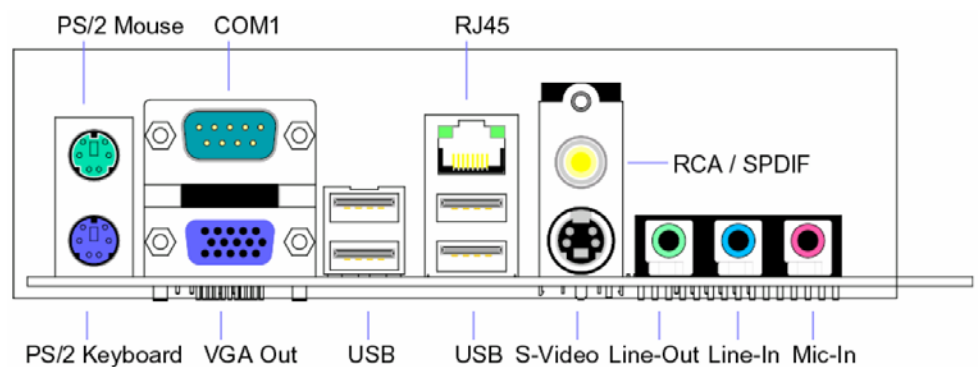

Figure 4 M6000 Controller, the CPU board connectors.
- 1 The CPU board. It contains the microprocessor and all the communication interfaces which are described in Figure 4.
To enter BIOS setup on M6000 it is necessary to open the M6000 cabinet by loosening the two screws under the cabinet, and to connect a PC keyboard with the PS/2 keyboard interface on the CPU board (see Figure 4).